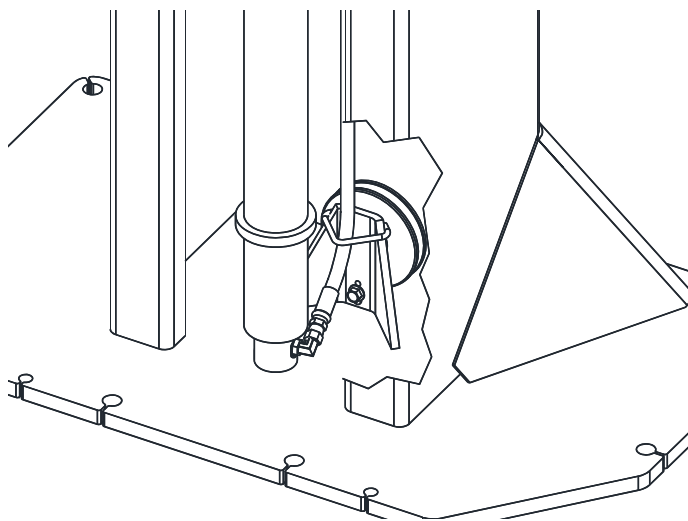

Fig. 14-Hose Connection
- 28) Each column hose should connect to its cylinder with a 90 degree elbow rotated 25 degrees up from horizontal and be routed thru the hose guide as shown in **Fig. 14**.